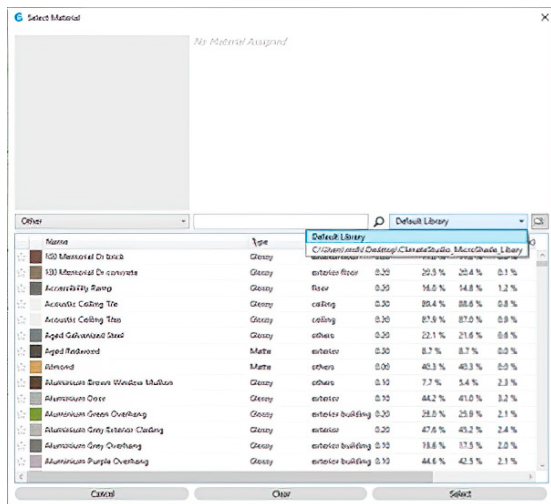
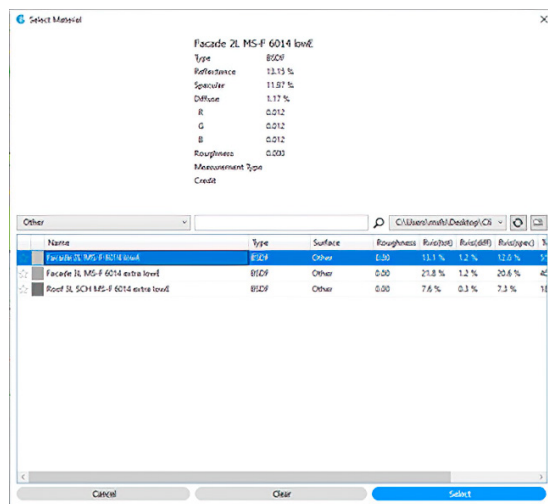

Figure 10 Select your newly added Custom Library
Figure 11 Click on the BSDF you want to use, if multiple is added to your library, and click "Select".
Step 7 Click on the dropdown menu displaying "Default Library" and select the newly added custom library. See figure 10. If materials are added while working, click the refresh button, , to be able to see the newly added materials. Click on the material you want to use, and click "Select", see figure 11.